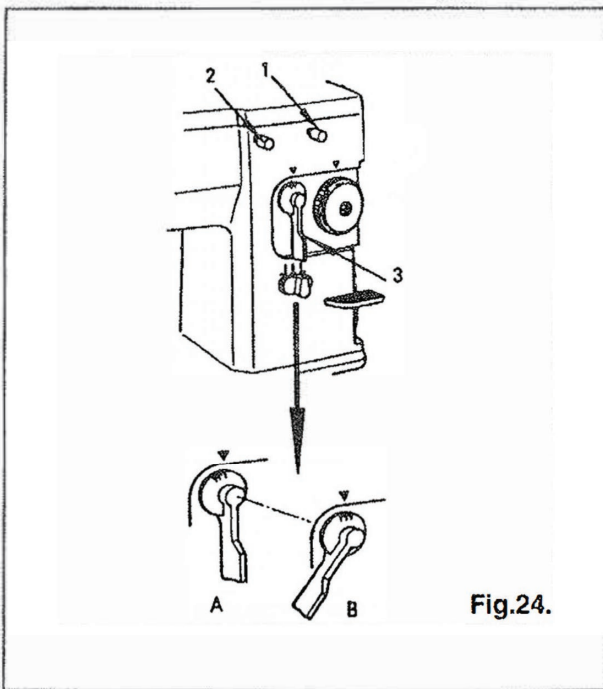

Fig. 24.
To obtain minimum to maximum width (20U73/73B: 9mm. 20U83/83B: 12mm) zigzag stitches, first loosen thumb screw (2), Fig. 24. to permit the stitch width regulator (3), Fig. 24 to return to its zero position (see A, Fig. 24) and retighten thumb screw (2).
Then loosen thumb screw (1), Fig. 24. turn stitch width regulator (3) clockwise as far as it will go and while holding the regulator (3) in this position (see B, Fig. 24), retighten thumb screw (1).